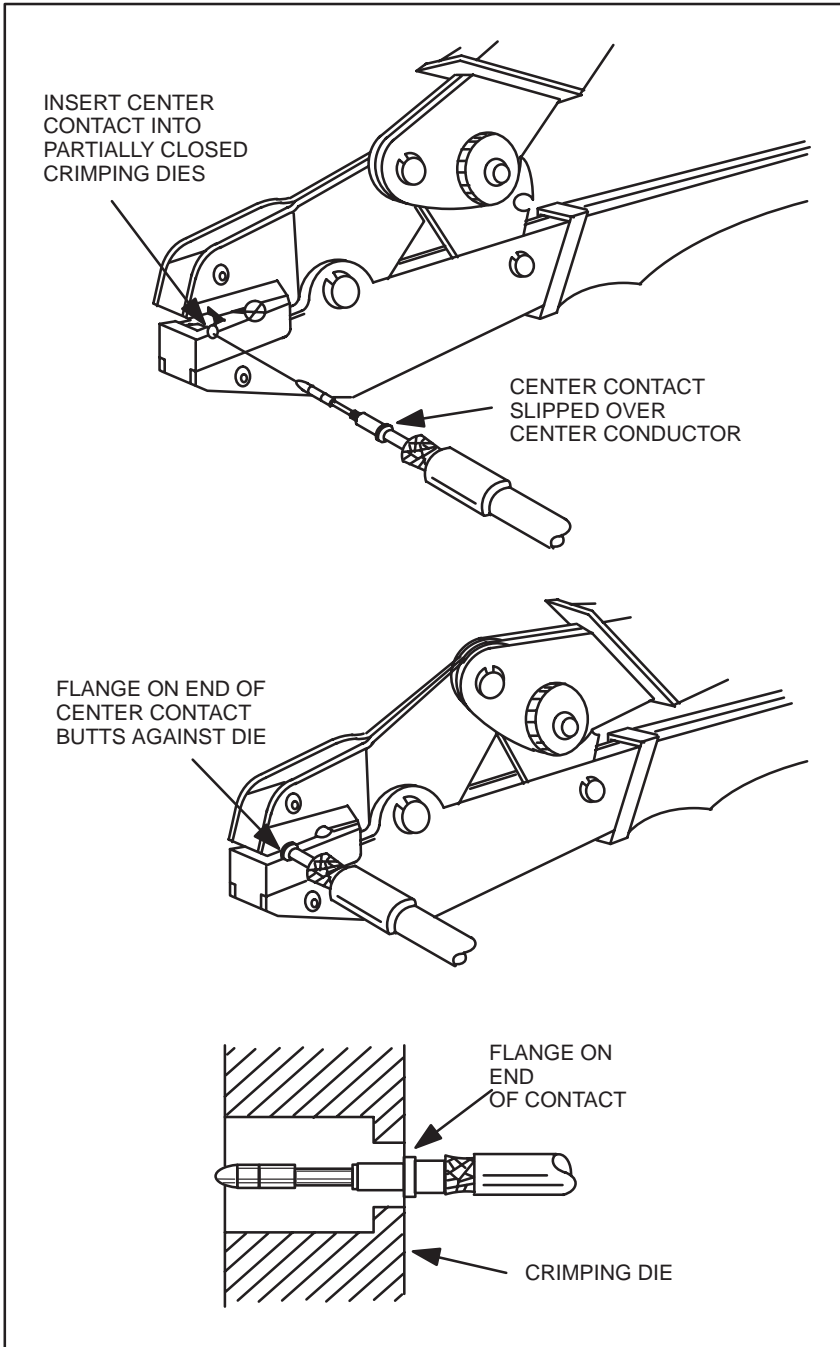

Figure 3.10 - Connector Installation Step 3 for RG-59/U Cable
- Step 3. Place the center contact from the BNC plug connector, assembled on the stripped conductor, in the partially closed crimping dies as shown in figure 3.10. Be sure the flange on the end of the center contact butts against the crimping die.